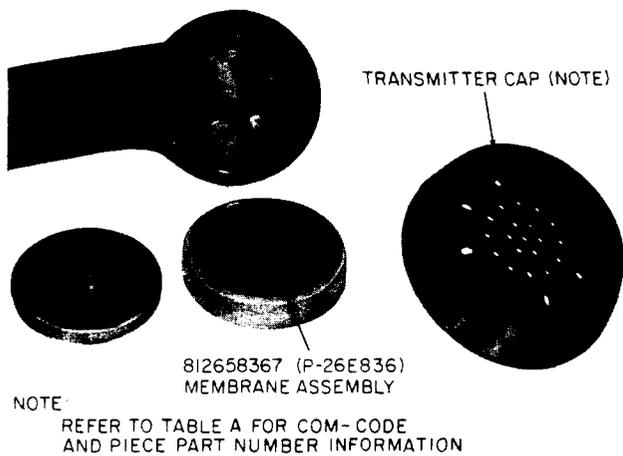

Fig. 4—Moistureproof Transmitter Assembly
2.03 A moistureproof membrane assembly (Fig. 4), which fits over the transmitter, may be installed in any G-series handset, except those with cemented receiver and transmitter caps. When this moistureproof membrane is used, it is necessary to install a special transmitter cap, Table A.
* These handsets are equipped with a moistureproof transmitter assembly (Fig. 4).